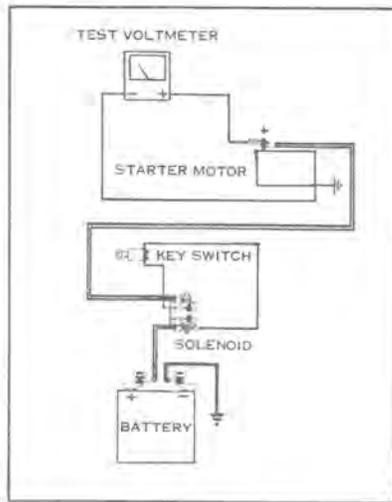

Figure 7-47
- c. Connect a voltmeter across starter motor (see Figure 7-47), with positive (+) lead to starter motor terminal, and negative (-) lead to ground on starter frame.